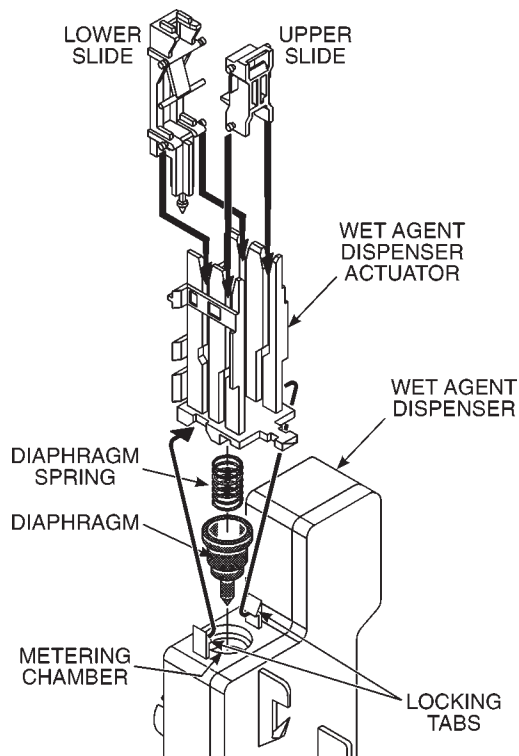

Fig. 1-30
7. Remove wet agent dispenser actuator by spreading the two (2) locking tabs. (Fig. 1-30)
4. Insert the diaphragm and diaphragm spring into the wet agent dispenser. Seat the diaphragm flush with the surface of the dispenser. (*Fig. 1-30*)